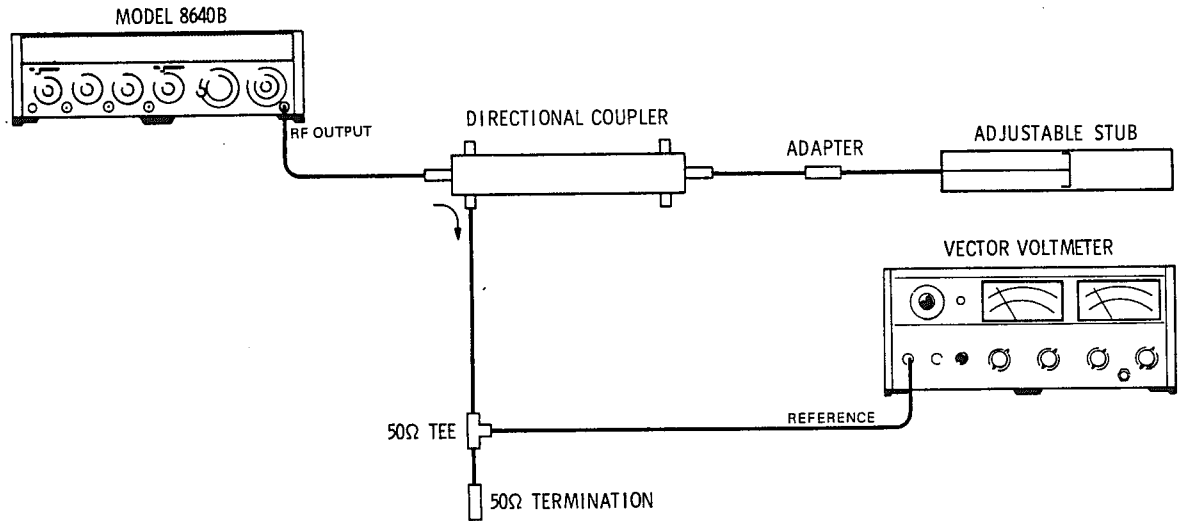

Figure 4-13. Output Impedance Test Setup (In Band)
1. Connect equipment as shown in Figure 4-13 after setting Signal Generator's controls as follows: